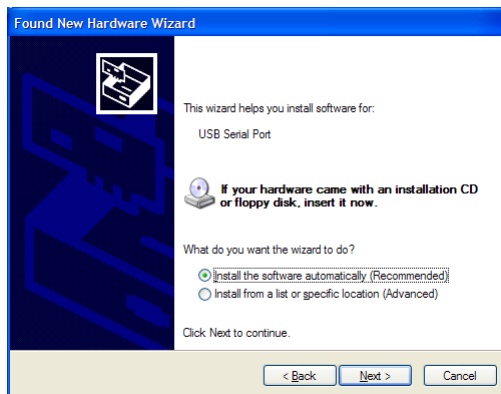

Figure 11
8. Select “Install the software automatically” and click “Next”. (Figure 11)